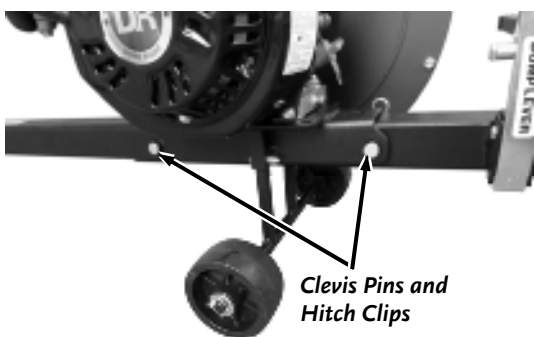

Figure 14
3. Lift the Rear Frame and Power Unit to align the two sets of side holes and insert a 1/2" X 3.5" Clevis Pin into each (**Figure 14**).